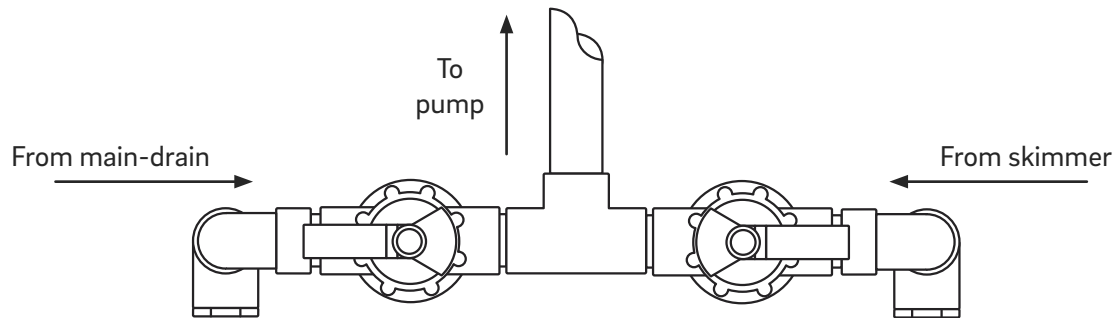

Figure 17
1. In order to evacuate the lines during the winterization process it is recommended that a 2-Way shut-off valve be installed on each suction branch-line preceding the main line feeding the pump (Figure 17).